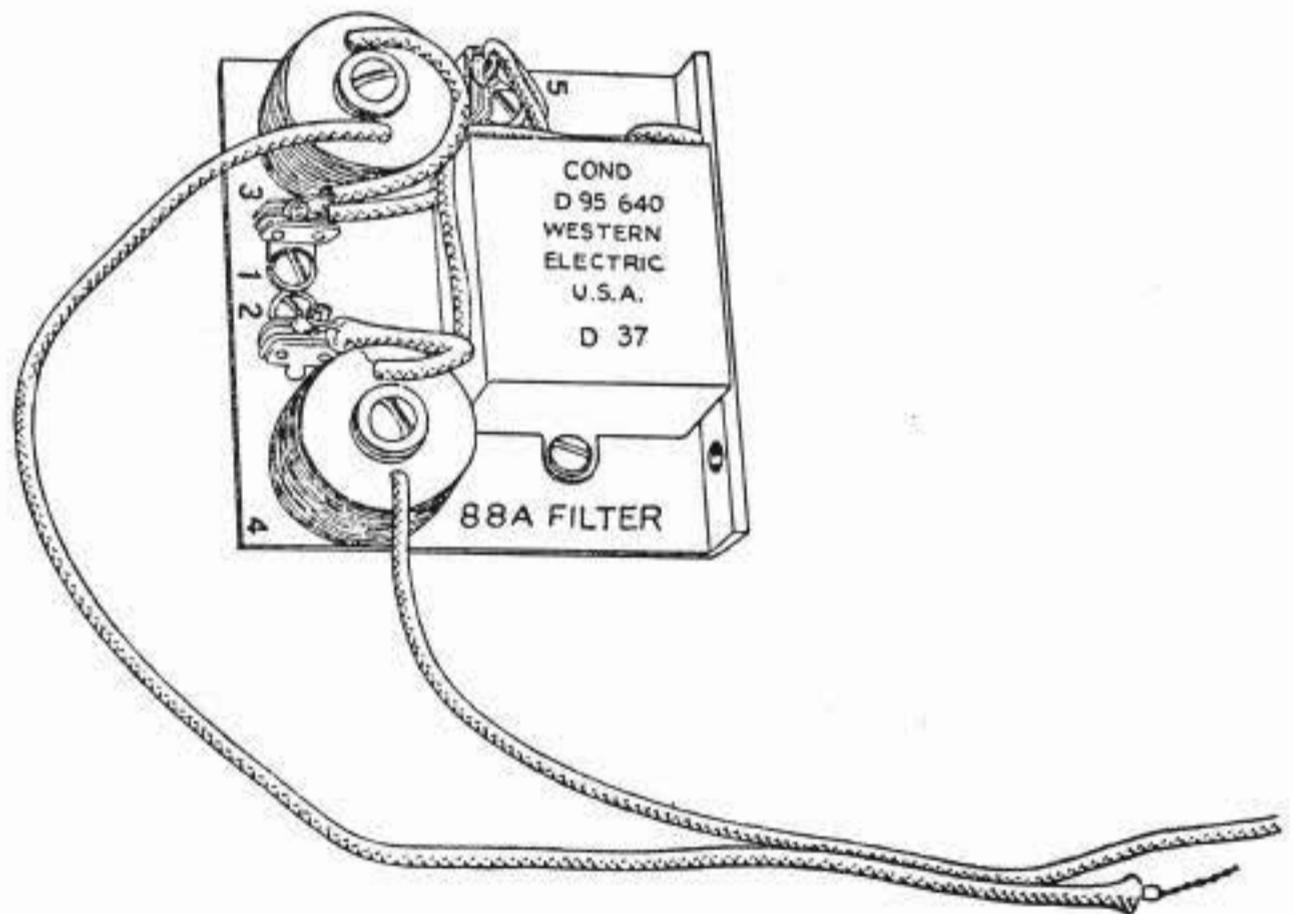

Fig. 1
2.01 The mounting of the 88 type filters may be arranged to suit the particular equipment layout to which these filters are to apply. This mounting should be such that the leads connecting into the filter from the disturbing contacts are as short as practicable, preferably not more than 2" long. The 88A filter is illustrated in Fig. 1. The filter bracket is "L" shaped with 6-32 standard threaded mounting holes on the vertical portion which mounts against the relay panel. The mounting holes are spaced 1-3/4". The bracket is 2-11/16" wide by 2-1/2" deep and the mounting screws for the coils extend